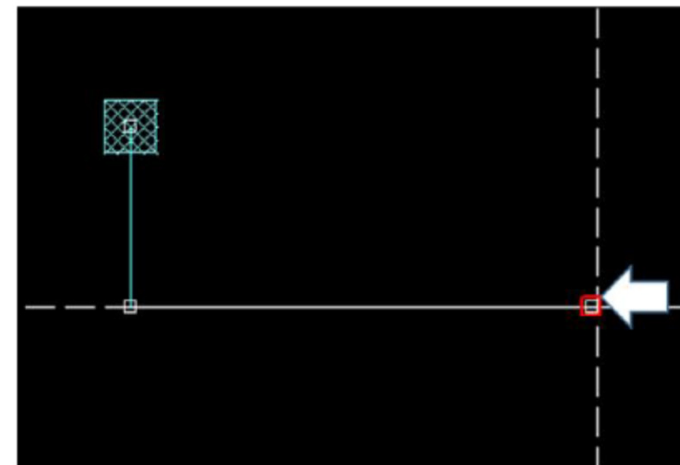

Fig.8 Placing the line in the model
- ▶ Clicking the Create Line button will enable the user to draw the line in the Graphical panel using the mouse cursor. First, click on the bus called tr2 and specify the connection as shown in Fig.8 (a). Then, click on the bus ld1, as shown in Fig.8 (b), and specify the connection of the line in the same way the previous terminal was defined.
- ▶ After configuring the load, click on the Save button. OpenDSS-G will expect the user to click on the destination bus for the load, which is ld1 in this case. After clicking on the bus ld1, the same dialog shown in Fig.8 (a) will appear to allow the user to specify the load connection to the bus. Once this operation is performed, the model is ready for simulation.